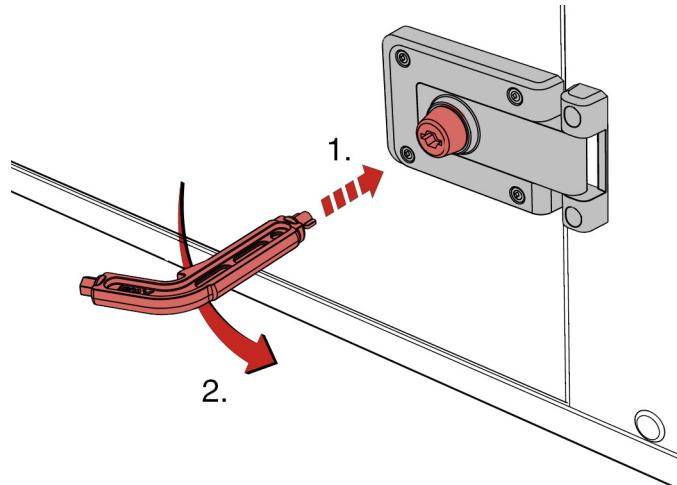

Fig. 49: Inspection access door with safety lock
► Insert the TROX special key into the lock and turn it anti-clockwise as far as it will go (Fig. 49).